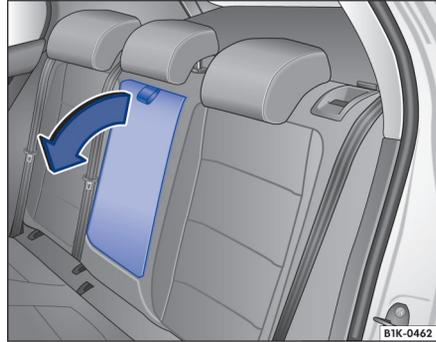

Fig. 75 Folding down the rear center armrest (arrow).
There may be a fold-down armrest in the backrest of the center rear seat → fig. 75.
- To *fold down*, pull the loop in the direction of the arrow → fig. 75.